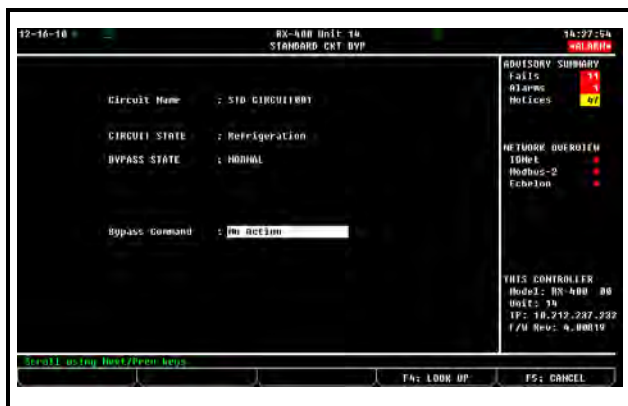

Figure 12-14 - Circuit Bypass Screen (RX-400 Version Shown)
- The Circuit Bypass screen (see *Figure 12-14*) will display the circuit name, its current state, and the bypass state. The **Bypass Command** field